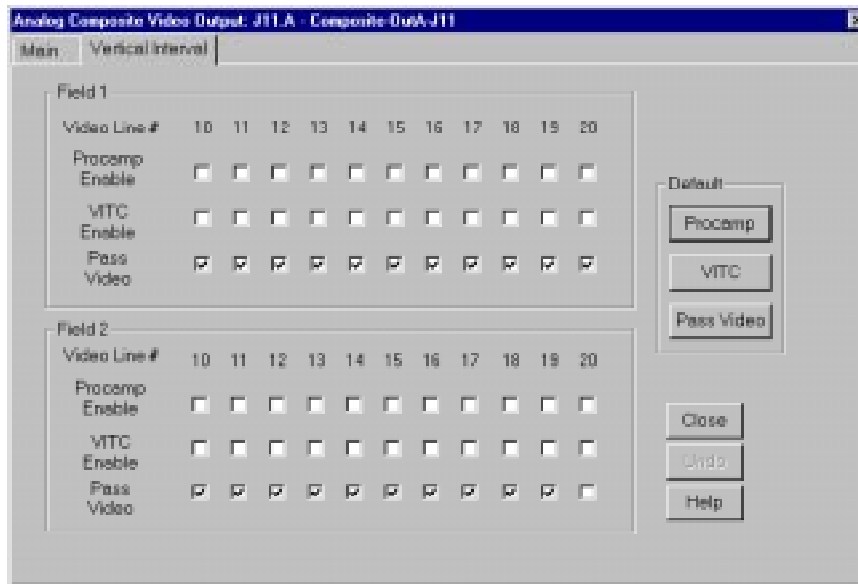

Figure 23. Analog Composite Video Input Vertical Interval tab
1. Click the **Vertical Interval** tab to view the vertical interval controls. The vertical interval line numbers change depending on the selected video standard (see Figure 23).